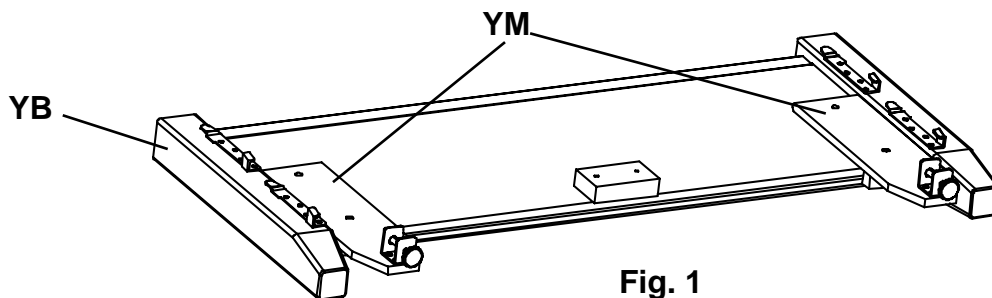

Fig. 1
1. Remove the Foot Assemblies (YM) from the back of the Footboard (YB) as seen in Figure 1 and place them off to the side.